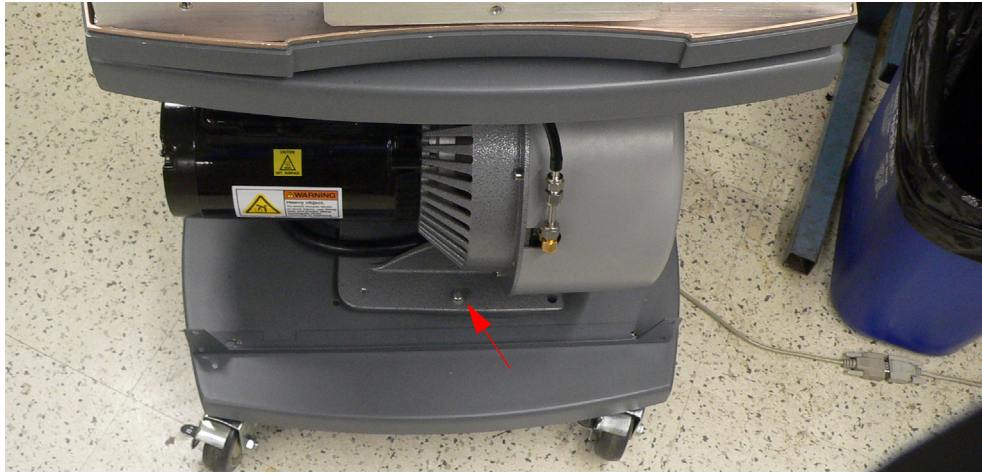

Figure 1-7 TriScroll Shipping Bolt
2. Remove the one shipping bolt as in Figure 1-7 using an M5 wrench.